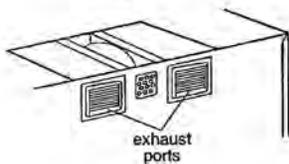
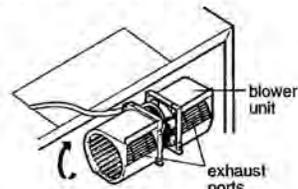

Figure 16
Figure 15
5. Rotate the unit so that the exhaust ports face the rear of the cabinet. See Figure 16. When you insert blower unit, blower wire must be like figure 15.
6. Place blower unit back into cabinet. Check that the exhaust ports face towards the rear of the cabinet. See Figure 16.